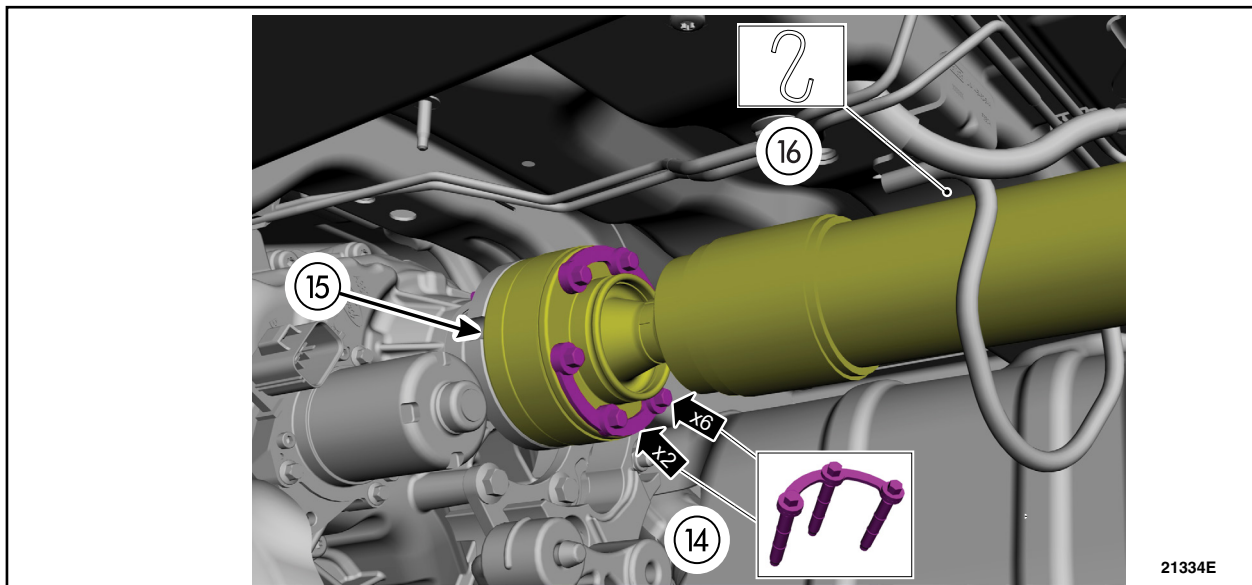

FIGURE 5
14. Remove and set aside the driveshaft CV-joint to transfer case flange bolts and the retaining straps/washers. See Figure 5.
15. Using a small pry bar, separate the driveshaft CV-joint from the transfer case flange. See Figure 5.
16. Support the driveshaft. See Figure 5.